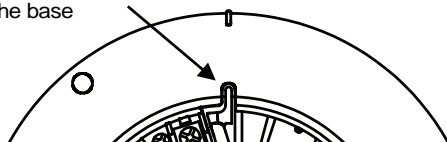

Figure 5: Eliminating the Locking Feature
1. To eliminate this feature, break off the locking tab (refer to Figure 5), and then install the detector.